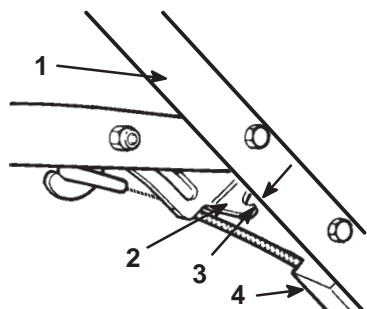

Figure 28
A. Loosen the nut on the cable bracket (Fig. 28).